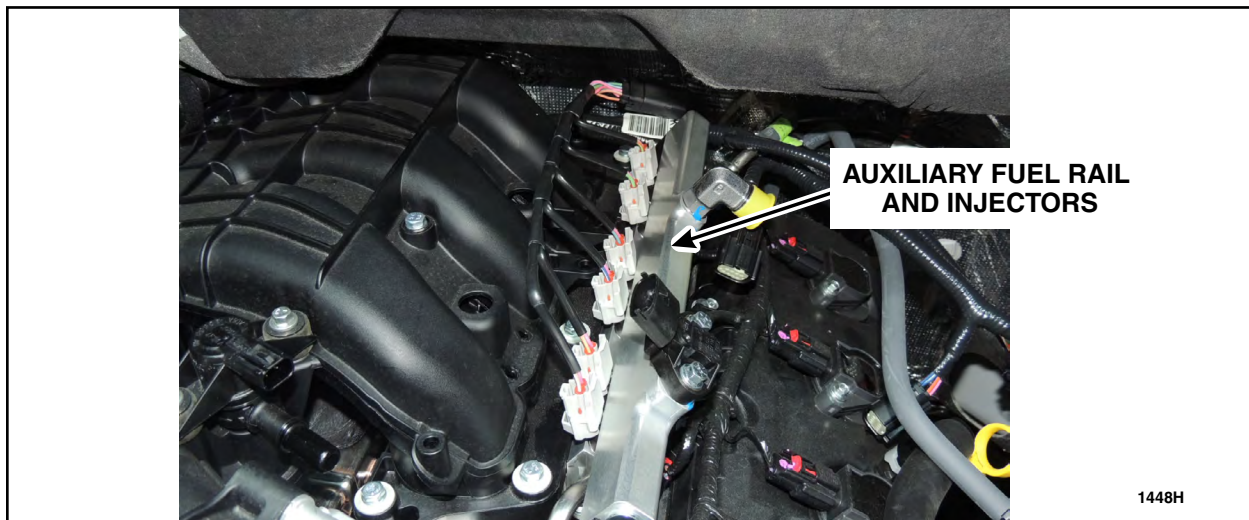

FIGURE 1
- Bi-fuel systems are equipped with the standard gasoline fuel system injectors with the addition of a spacer plate between the upper and lower intakes, which contains a second set of fuel injectors for the Compressed Natural Gas (CNG) fuel system. This system is identifiable by an auxiliary fuel rail to the left of the intake which feeds the CNG injectors. See Figure 1.